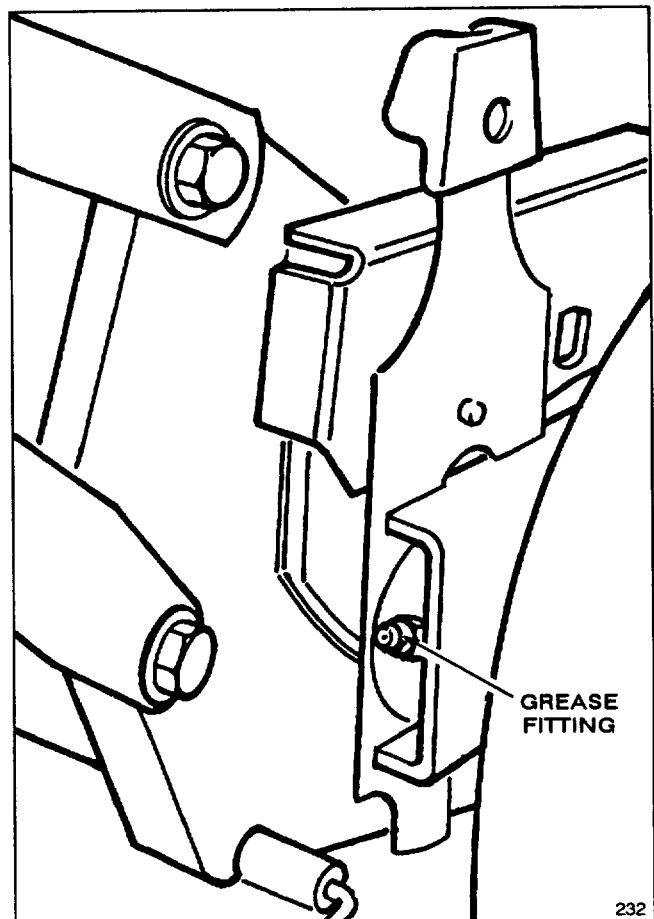

Figure 23
1. Move rear wheel height-of-cut levers to center setting. Wipe grease fittings with clean rag (Fig. 23). Install grease gun onto fitting and gently apply 2 or 3 pumps of #2 Multi-Purpose Lithium Base Grease. Excessive grease pressure may damage seals.